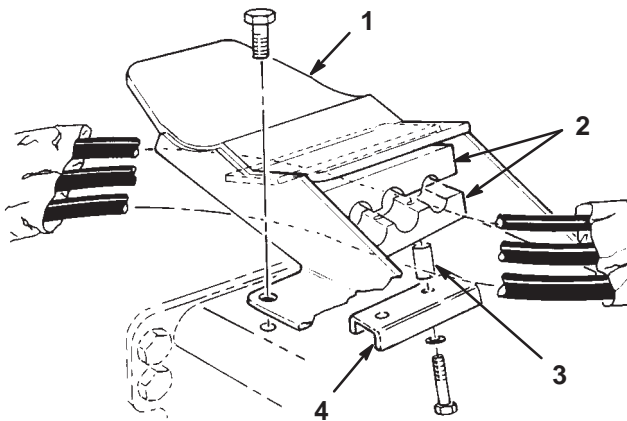

Figure 7
1. Loosely secure the hydraulic hoses to the underside of each tipper bracket with hose clamps, spacers, clamp plate, lock washers, and capscrew as shown in Figure 7.
6. Tighten tipper bracket clamps on #4 and #5 cutting units (Fig. 7).